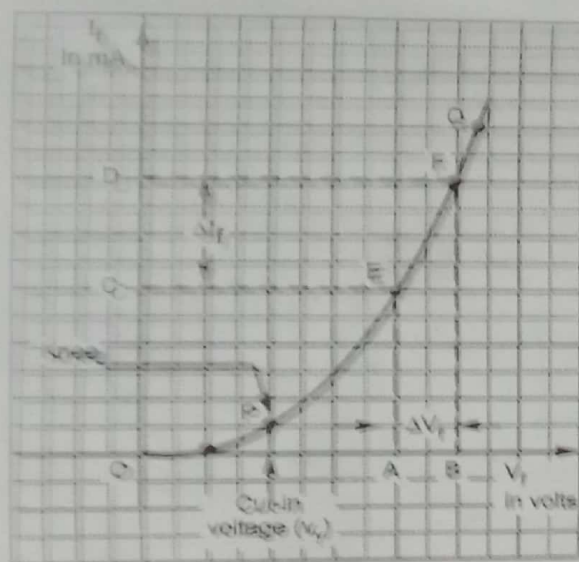

Fig. Q.6.1 Forward characteristics of a diode
- The forward characteristics of a diode is shown in the Fig. Q.6.1.
2. **Region P to Q and onwards :** As V_f increases towards V_f the width of depletion region goes on reducing. When V_f exceeds V_f i.e. cut-in voltage, the depletion region becomes very thin and current I_f increases suddenly. This increase in the current is exponential as shown in the Fig. Q.6.1 by the region P to Q.